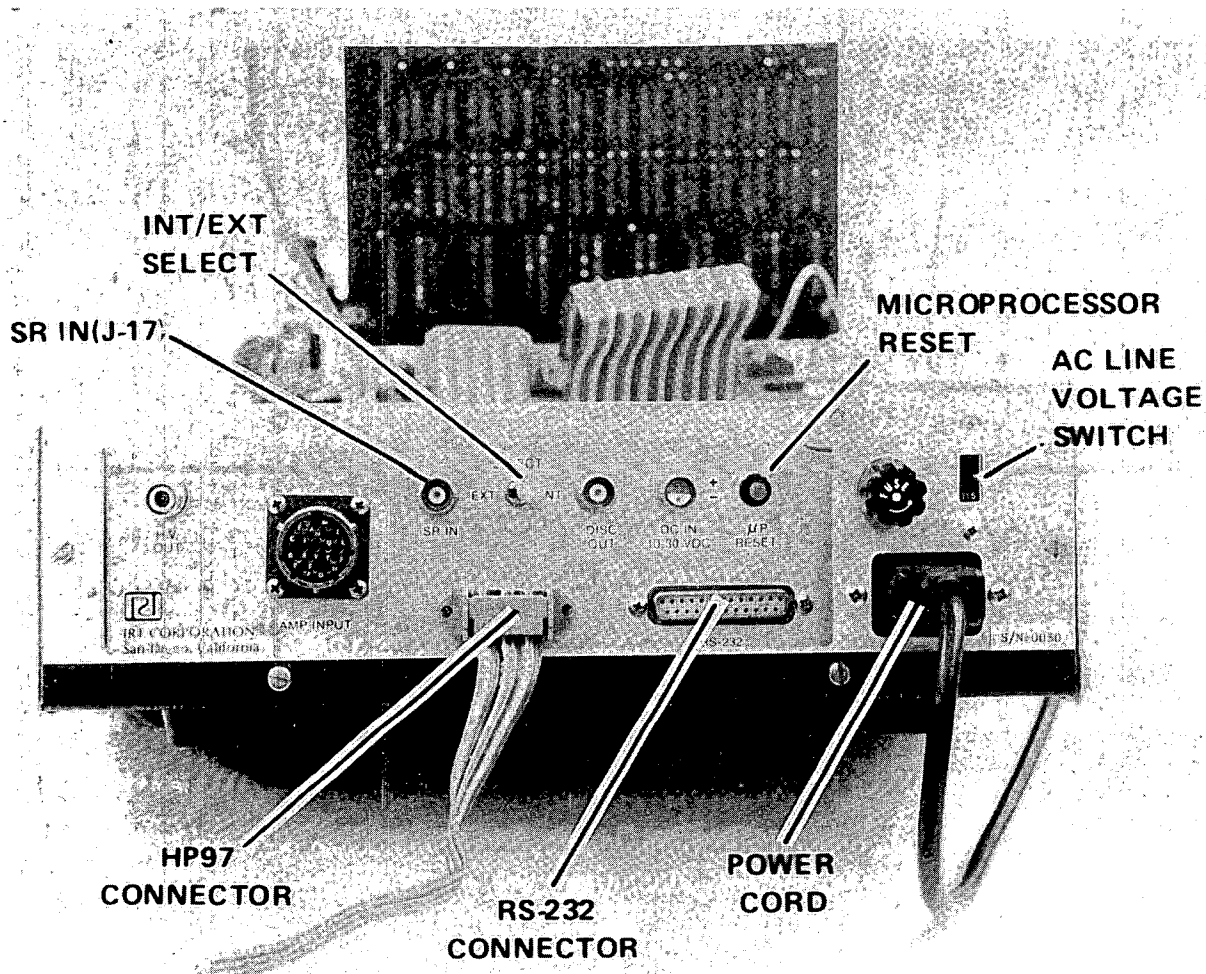

Fig. 6.
1. HEC-100 initial conditions (Fig. 6).
3. Connect RP501 "PERIODIC PULSE" BNC to HEC-100 "SR IN" (J-17)(Fig. 6.